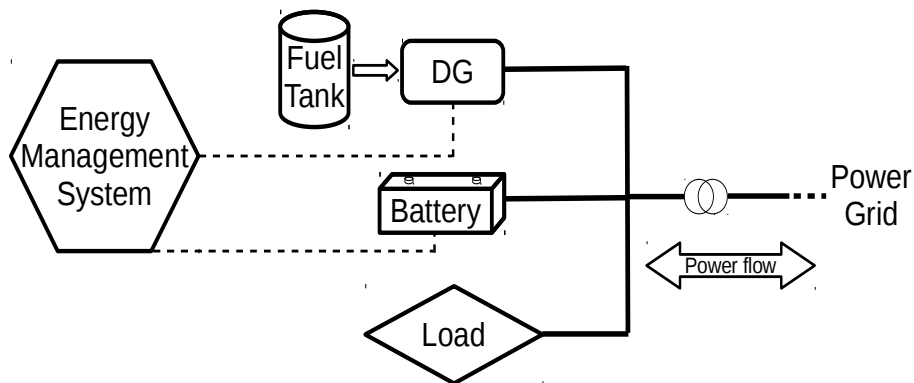

Figure 1: Schematic structure of the considered microgrid.
We consider a microgrid that is connected to the main power grid. Figure 1 presents a schematic diagram of the considered microgrid, where diesel generator (DG) units and their fuel tanks, batteries, and an energy management system (EMS) are the devices considered in this assignment. Assume that the EMS has an accurate prediction of the load in the microgrid and is able to communicate with the diesel generators and the batteries without any delay. We assume that the electrical connection between the microgrid and the power grid does not have any physical limit and, hence, the power balance of the microgrid can always be maintained. In other words, the amount of power used by the load and the charging batteries is equal to the power provided by the power grid, diesel generators, and the discharging batteries.